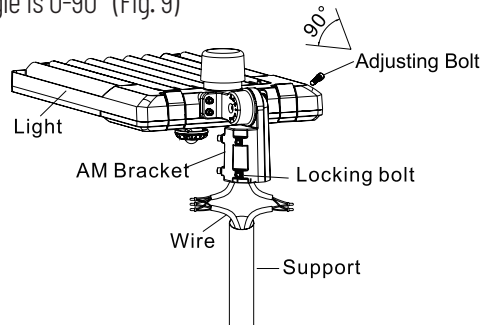

Figure 9
Step 1: Loosen the four bolts on AM bracket, connect the wires correctly, and pull the wires into the poles. (Fig. 9)
Notice: Adjustable angle is 0-90° (Fig. 9)